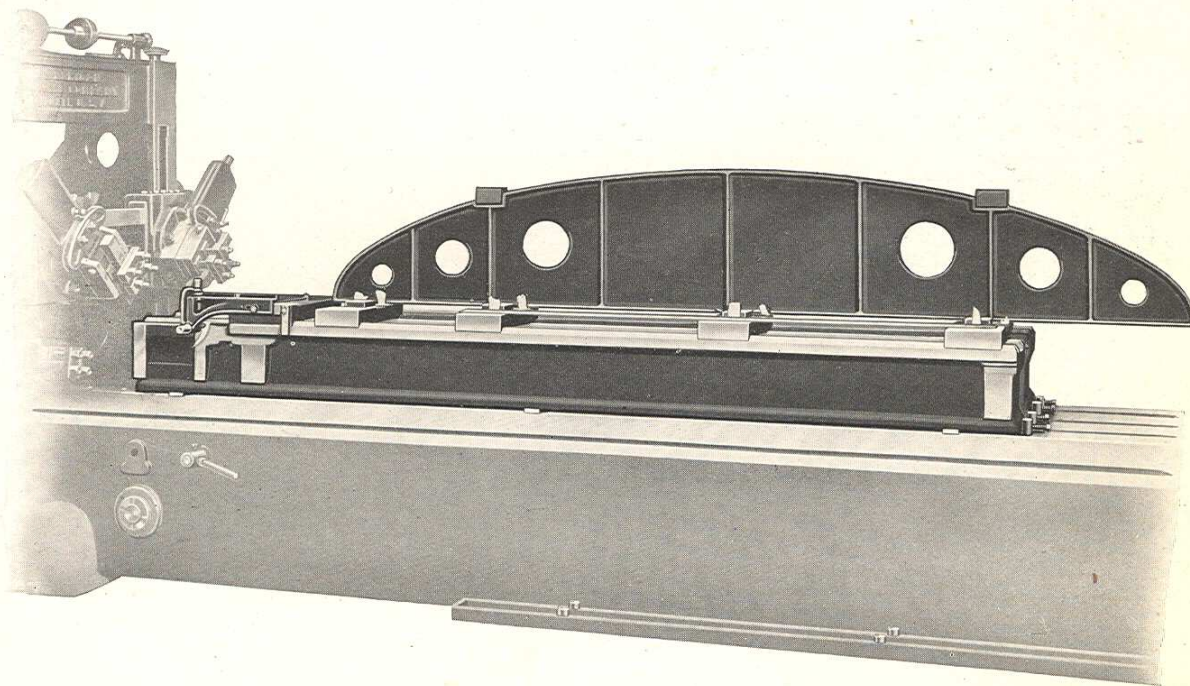

Fig. No. 7. Lathe Beds being tested on the Planer Table after finishing.
After the bed has been completely rough planed the holding clamps are loosened, thus relieving the casting of all stresses after which the finishing cut is taken. The bed is then tested for accuracy (Figure No. 7) by means of four (4) blocks, located at regular intervals on the carriage "vees", which are used in connection with a Brown & Sharpe straight edge placed on the test blocks. Tissue pull papers are placed between the straight edge and the test blocks and if these do not prove the bed to be straight it must be replaned.
The parallel or side alignment of the vees is tested by means of a long straight edge which bears against a shoulder on each of the testing blocks. (See Figure No. 7.) Tissue test papers are then placed between the contact points of the straight edge and shoulders, and must all be held with the same tension. If these tests prove entirely satisfactory the beds are removed from the planer and passed on to the erecting floor where the entire machine is assembled.